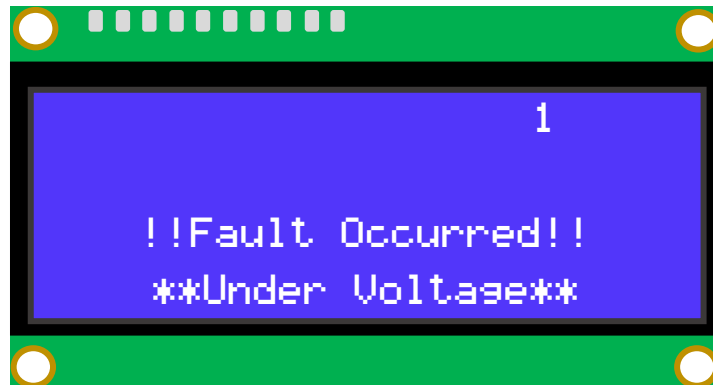

Figure 8 Fault Occurred with Fault Name
6. In the case of a problem, the display will indicate "Fault Occurred" along with the fault name status (*Figure 8*). Refer to section 6.2.1 for further information about the fault.